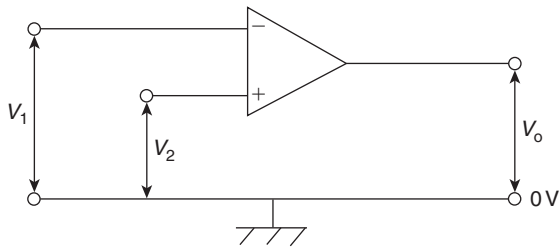

Figure 19.13
If both inputs of the op amp shown in Fig. 19.13 are used simultaneously, then from equation (1), page 303, the output voltage is given by: